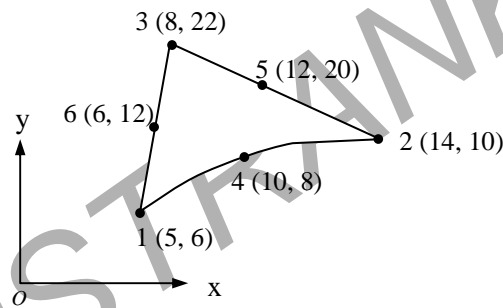

Fig. 4
6. For the quadratic, isoparametric triangular element shown in fig. 4 map the point  $\xi = 0.4$  and  $\eta = 0.3$  on the parent element to the corresponding point on the distorted element. [16]